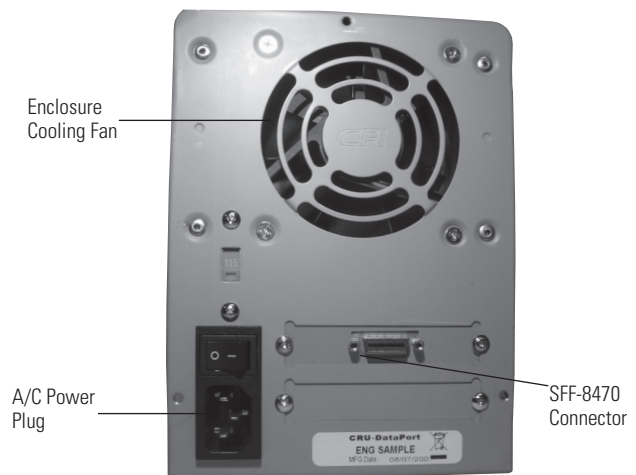

Figure 2: Enclosure Rear View
4. Power on the DataPort Enclosure with the power button located on the back of the enclosure (see Figure 2). For best results power on the enclosure prior to powering on the host system.